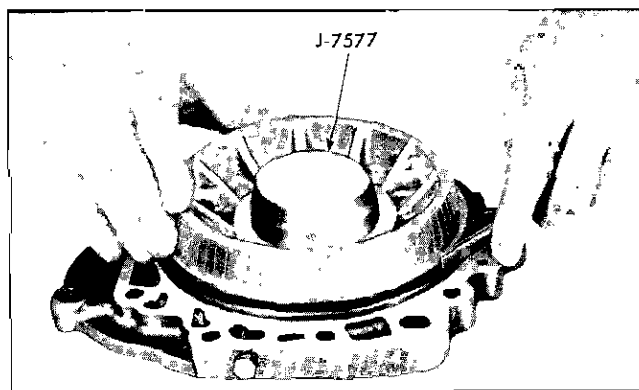

Fig. 129 Installing Reverse Piston in Housing
1. Place tool J-7577 over inner hub of reverse piston housing (Fig. 129).